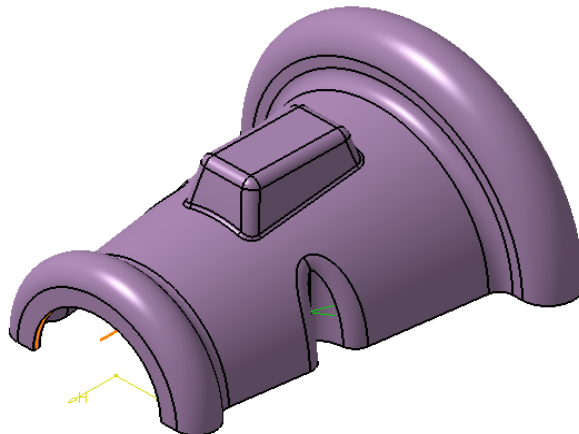
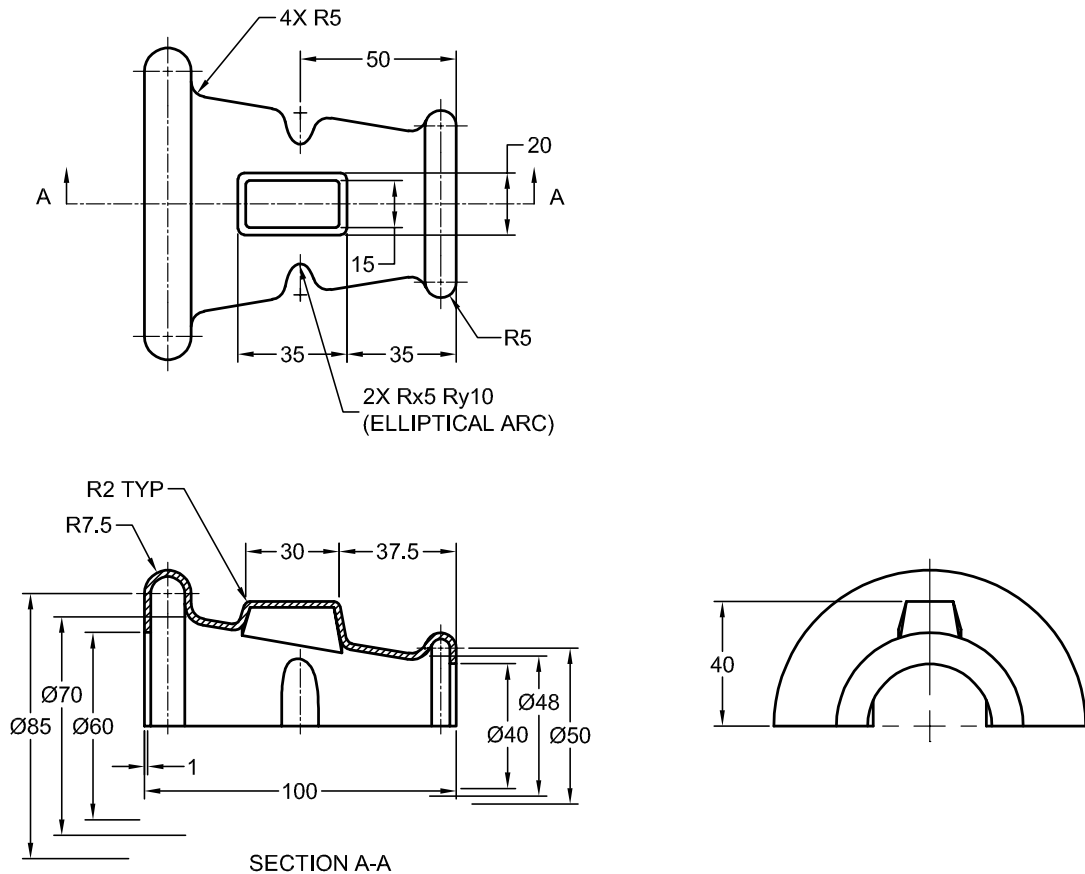
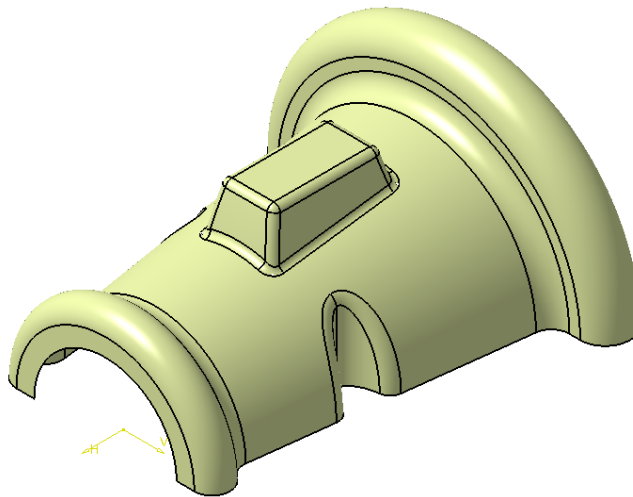

Figure 17-83 Model for Tutorial 1
Figure 17-84 Views and dimensions of the model for Tutorial 1
Figure 17-100 Final surface model
In this tutorial, you will create the model using various tools available in the **Generative Shape Design** workbench. The model to be created is shown in Figure 17-83 and its views and dimensions are shown in Figure 17-84. **(Expected time: 1hr)**
4. Choose the **Edge Fillet** tool from the **Operations** toolbar and add the required fillets to the model. For dimensions of the fillets, refer to Figure 17-84. The final surface model after adding the fillets is shown in Figure 17-100